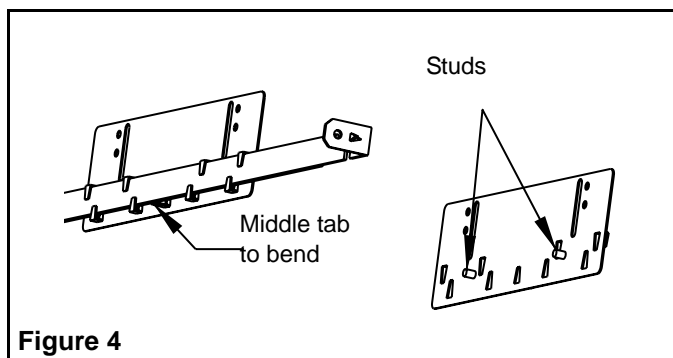

Figure 4
3. Slide hanger bars through the tabs in the adjustment brackets. If needed, bend the middle tab of the adjustment brackets over the hanger bars (see Figure 4). Align the “U” bracket as required and fix location by cutting a hole in the ceiling panel of the size of the “U” bracket (8-1/4 inch by 5-3/4 inch).
4. Rest the assembly on top of grid members. The notch on bars should hook over grid member (see Figure 5). Place the “U” bracket with its flange sit on the panel and tighten the nuts on the studs of the side brackets (see Figure 4). If required by code, hang the whole assembly from the framing above ceiling grid with solid wires, (provided by others).